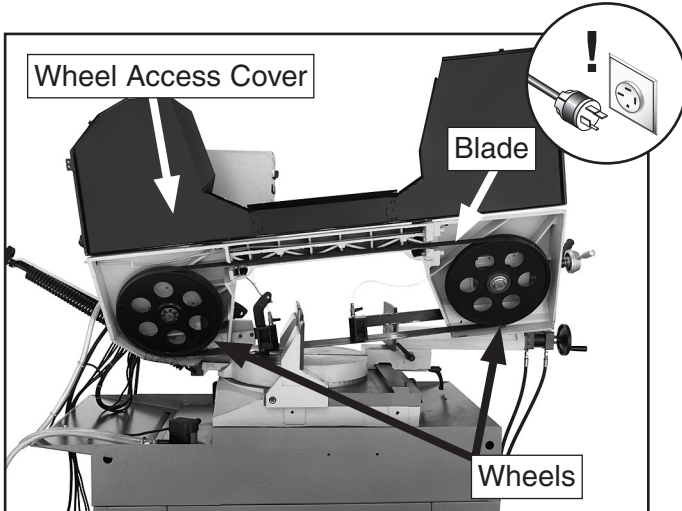

Figure 50. Wheel access cover.
3. Open the wheel access cover to expose the blade and wheels (**Figure 50**).